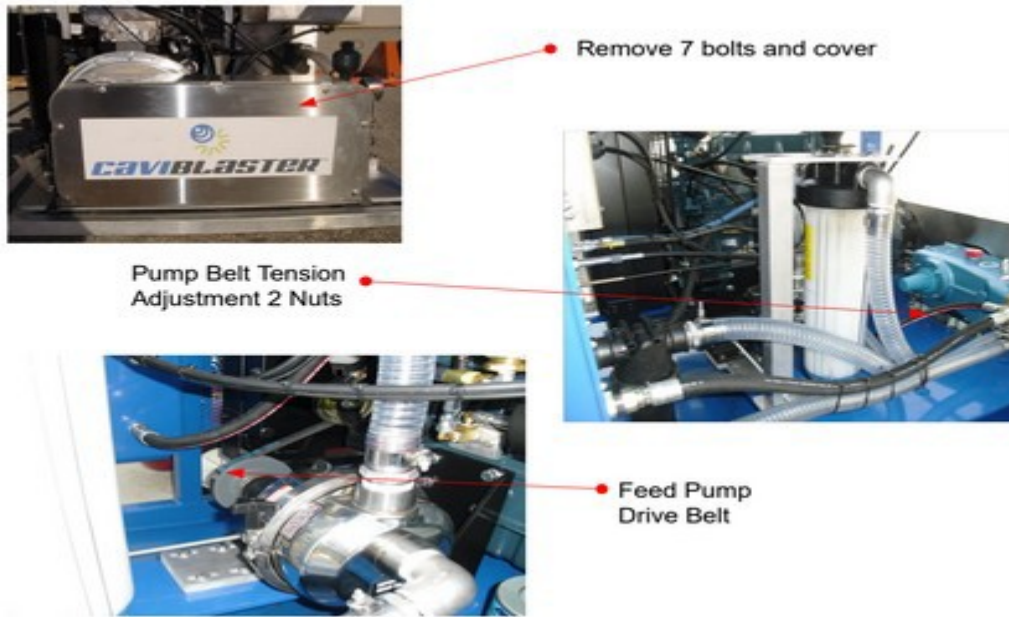

Figure 6.2 – Inspection / Belt Tension
1. Remove the belt guard cover supported by 7 bolts (See **Figure 6.2**).
2. If belts need tightening, use the tightening nut to adjust (See **Figure 6.2**).